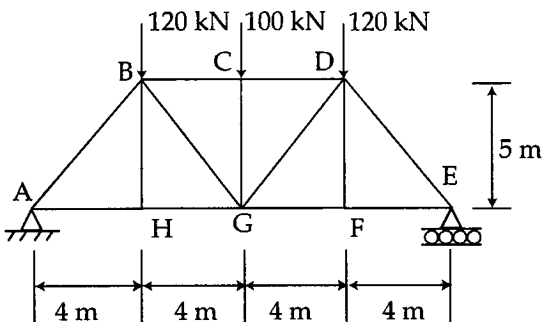

Fig. 1
1. Find forces in members AB, BC, BH, BG and CG of the truss shown in Fig. 1. 14